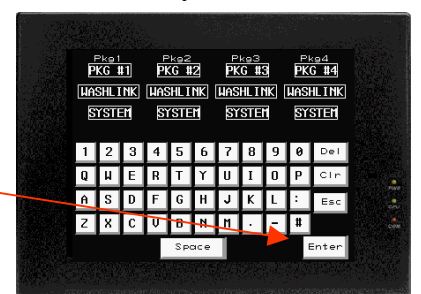

Fig 9
- 8 Type in new information and press Enter after each line (fig 9)